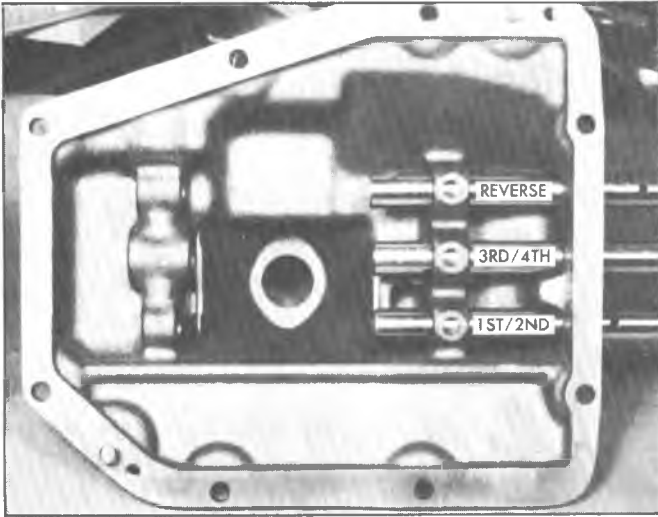

Fig. 7Q-Shifter Shaft Installation
- In reassembling the transmission cover, care must be used in installing the shifter shafts. They should be installed in the order shown in Fig. 7Q, namely, reverse 3rd-4th, and 1st-2nd.